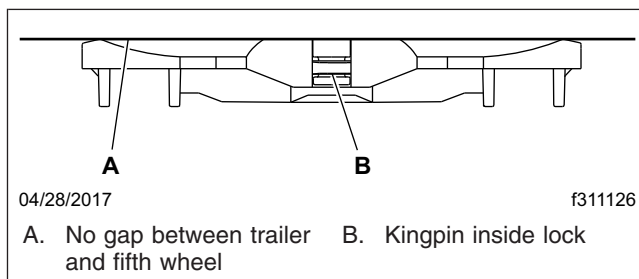

Fig. 18.6, Coupling Inspection
8. Perform a coupling inspection, checking that there is no gap between the bottom of the trailer and the fifth wheel, and that the kingpin is securely locked. See Fig. 18.6.
- Perform a physical check for positive kingpin lockup, ensuring that there is no gap between the trailer and the fifth wheel. See Fig. 18.6.